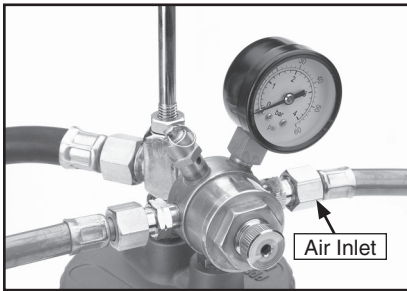

Figure 7. Compressed air inlet location.
- Attach the compressed air line to the air inlet as shown in **Figure 7**. However, wait until you have mixed your paint material and are ready to spray to complete this step (see **Spraying** on **Page 11**).